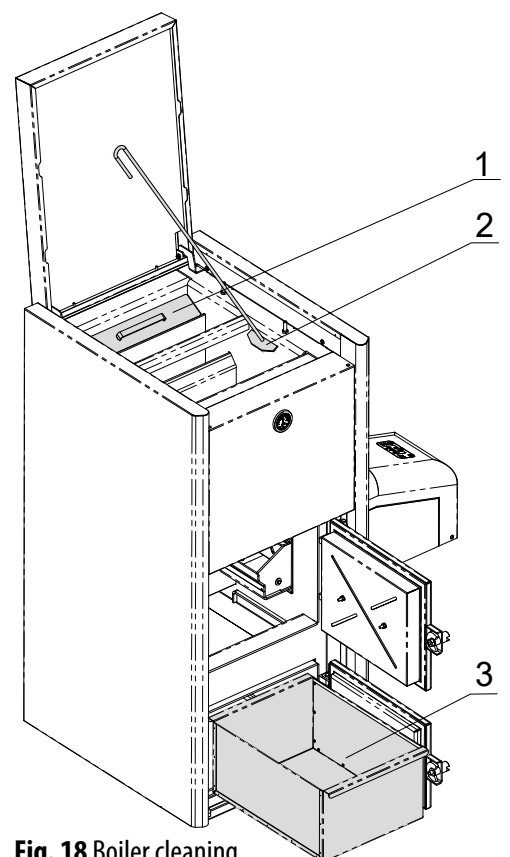

Fig. 18 Boiler cleaning. 1 – Upper chimney cover; 2 – Poker; 3 – Ashes drawer.
One or two times a month clean the boiler cavities of soot and resin deposits. For this purpose, lift the top cover (Fig. 6 pos. 1), remove the covers of the combustion chamber and the smoke channel (Fig. 6 pos. 2 and 3). Remove the turbulent insert (Fig. 3 pos. 4), fireclay plates (Fig. 3 pos. 3), flue top (Fig. 18 pos. 1) and lower caps (Fig. 3 pos. 5)).